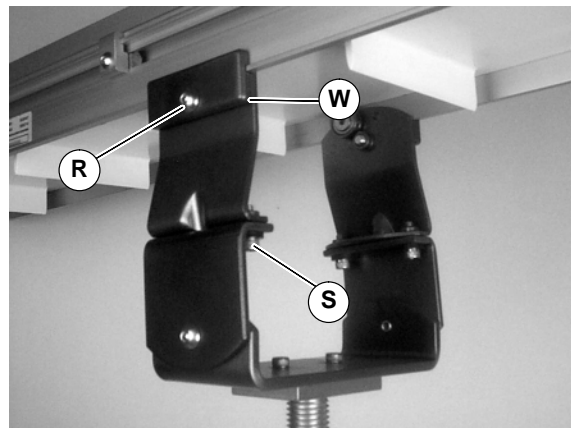

Figure 23
3. Install attachment assembly (W of Figure 23) on bottom of conveyor. Tighten bracket screws (R): Tighten M8 screws to 9 Nm.